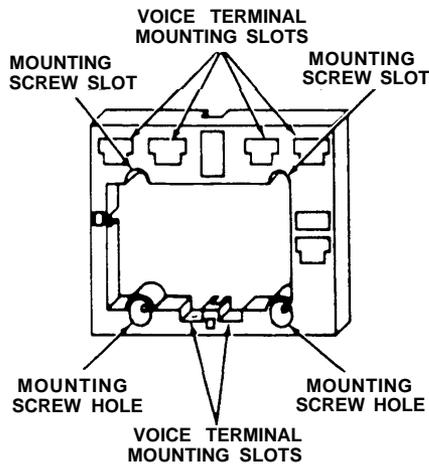

Figure 1
1. Select the wall mounting location, using the wall mount as a template, mark the four mounting hole locations (two upper slots and two lower holes) (see Figure 1).